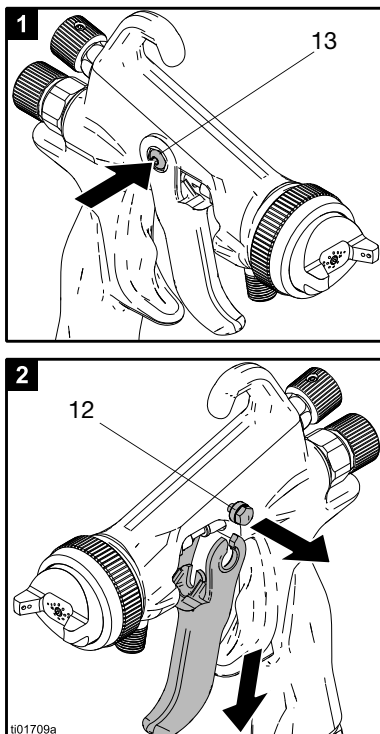

FIG. 19: Remove Trigger
3. Push the trigger quick release (13) on the side of the gun and reinstall the trigger (11). Make sure the washer (2h) on the needle is behind the trigger (11) when reinstalling. See FIG. 19.